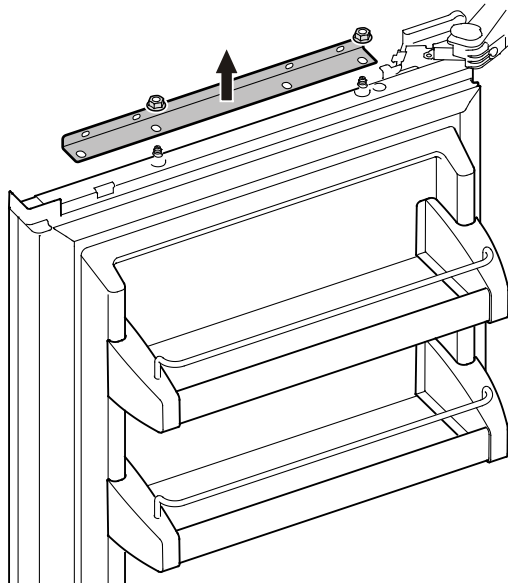

Figure 17
1. Unscrew the upper attachment brackets of both refrigerator doors (**Figure 17**).